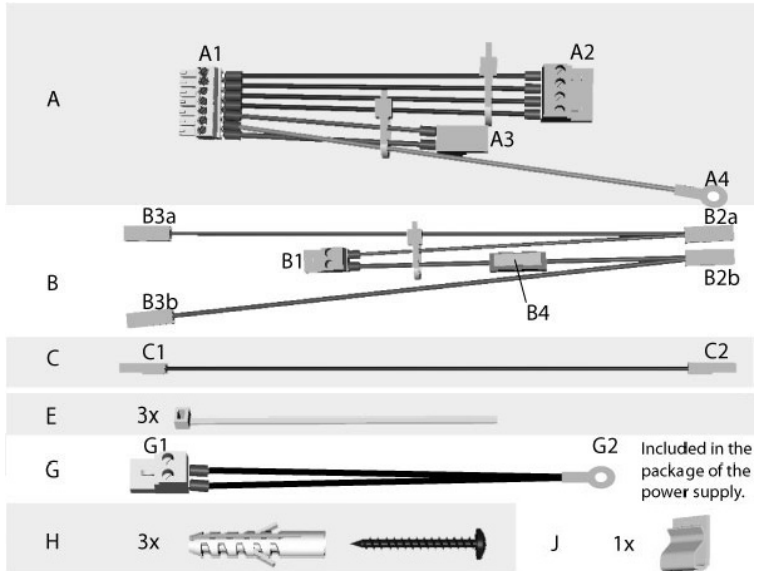

Figure 1.2: Content of Accessories Kit
The components described below refer to **Cable A** (Figure 1.2):
3. Stick the bracket (Fig. 1.2 – item **J**) on the back of the housing next to the batteries.
5. Stick the bracket (Fig. 1.2 – item **J**) on the back of the housing next to the batteries.